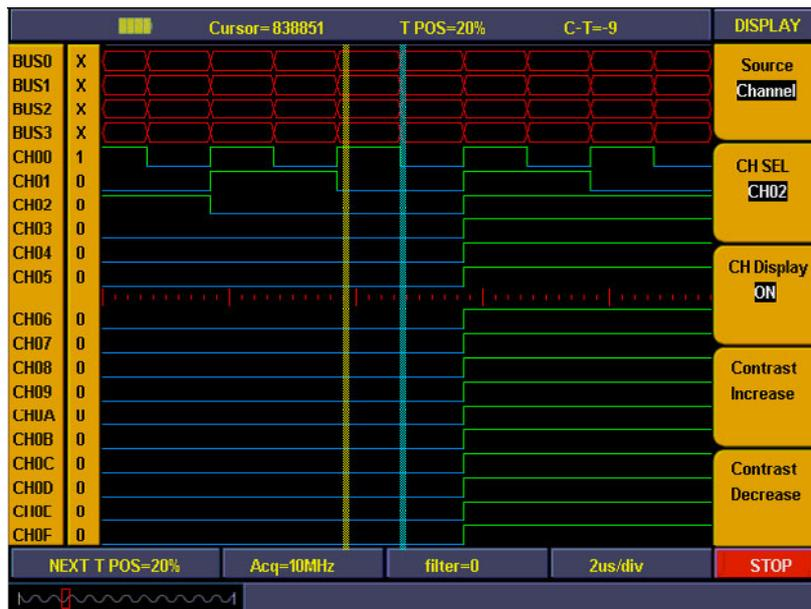

Figure 14.
- 4 Press "**F3**" and set the signal sources as "ON". Repeat operation of steps 3.4 and set CH01, CH02 as "ON" and CH03-CH0F as "OFF". Refer to Figure 14.
- 7 Press "F3" and set signal sources as "OFF". Repeat operation of steps 6.7 and set **BUS1**, **BUS2**, **BUS3** all as "OFF". Ref to Figure 14.